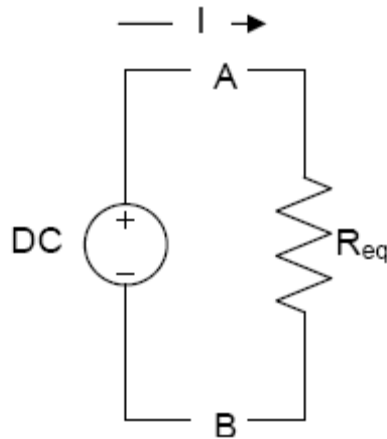

Figure 2
4. Build the circuit shown in Figure 2. Use the value of R_{eq} calculated in the prelab exercises and measured in step 2.